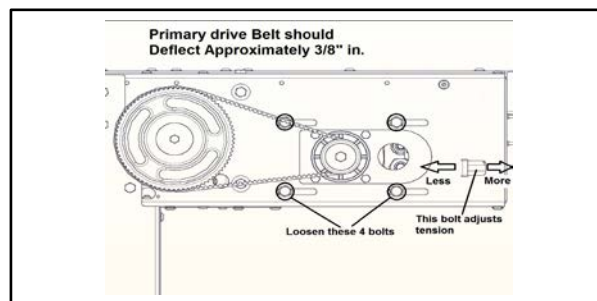

Figure 41
3. Loosen the four hex head screws securing the drive motor assembly to the left drive console. (See Figure 41.)